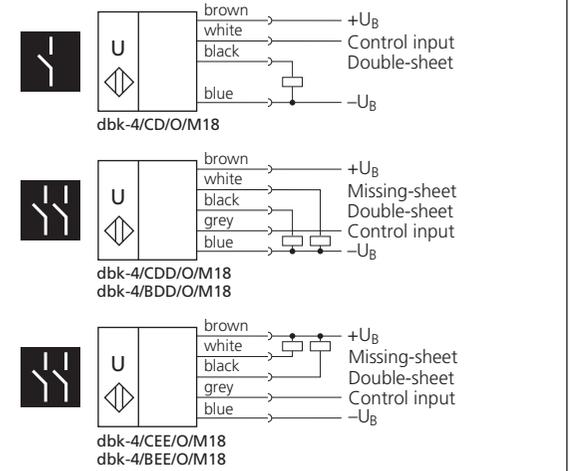

Fig. 5: Terminal assignments
- Connect the 4-core or 5-core control cable of the receiver as shown in Fig. 5.